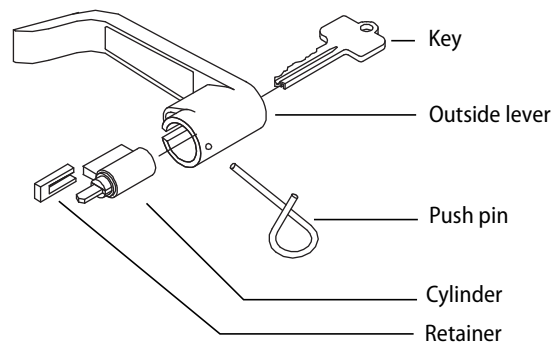

Figure 16 Installing outside lever (applies to both IC and non-IC levers)
- 1 Place the cylinder inside the outside lever. See Figure 16.
- 3 Insert the key into the cylinder and rotate the key 90 degrees clockwise. Slide the lever assembly onto the chassis shaft until the lever clicks as it engages against the lever catch.